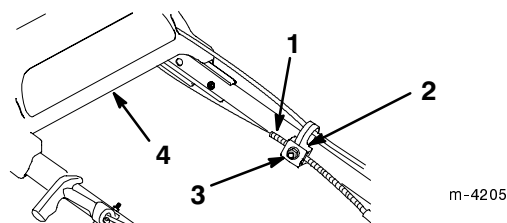

Figure 29
3. Loosen the cable support nut (Fig. 29).
5. With the upper handle pulled and held back as far as possible and while holding the belt guide tab down, pull the cable jacket down (toward the lawn mower) to remove all the slack in the cable (Fig. 29).
6. Tighten the nut on the cable support (Fig. 29).